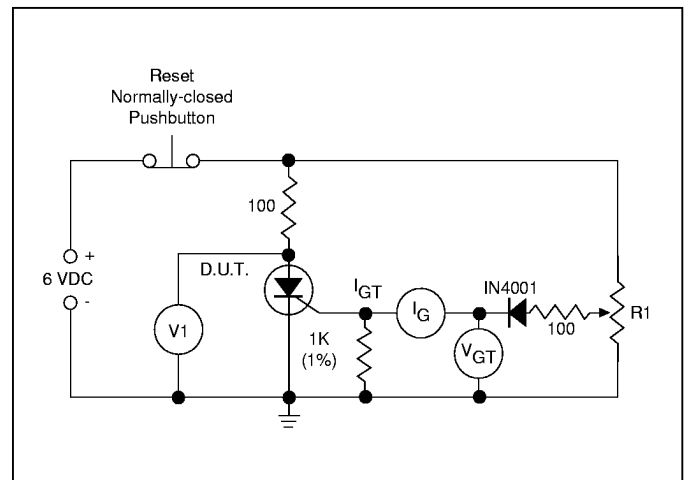

Figure 5.19 Simple Test Circuit For Gate Trigger Voltage and Current Measurement
- (10) Test condition is maximum rated RMS current except TO-92 devices are 1.2A $_{PK}$ ; T106/T107 devices are 4A $_{PK}$ .
- (11)  $V_D = 6VDC$ ,  $R_L = 100\Omega$ . See Figure 5.19 for simple test circuit for measuring gate trigger voltage and gate trigger current.